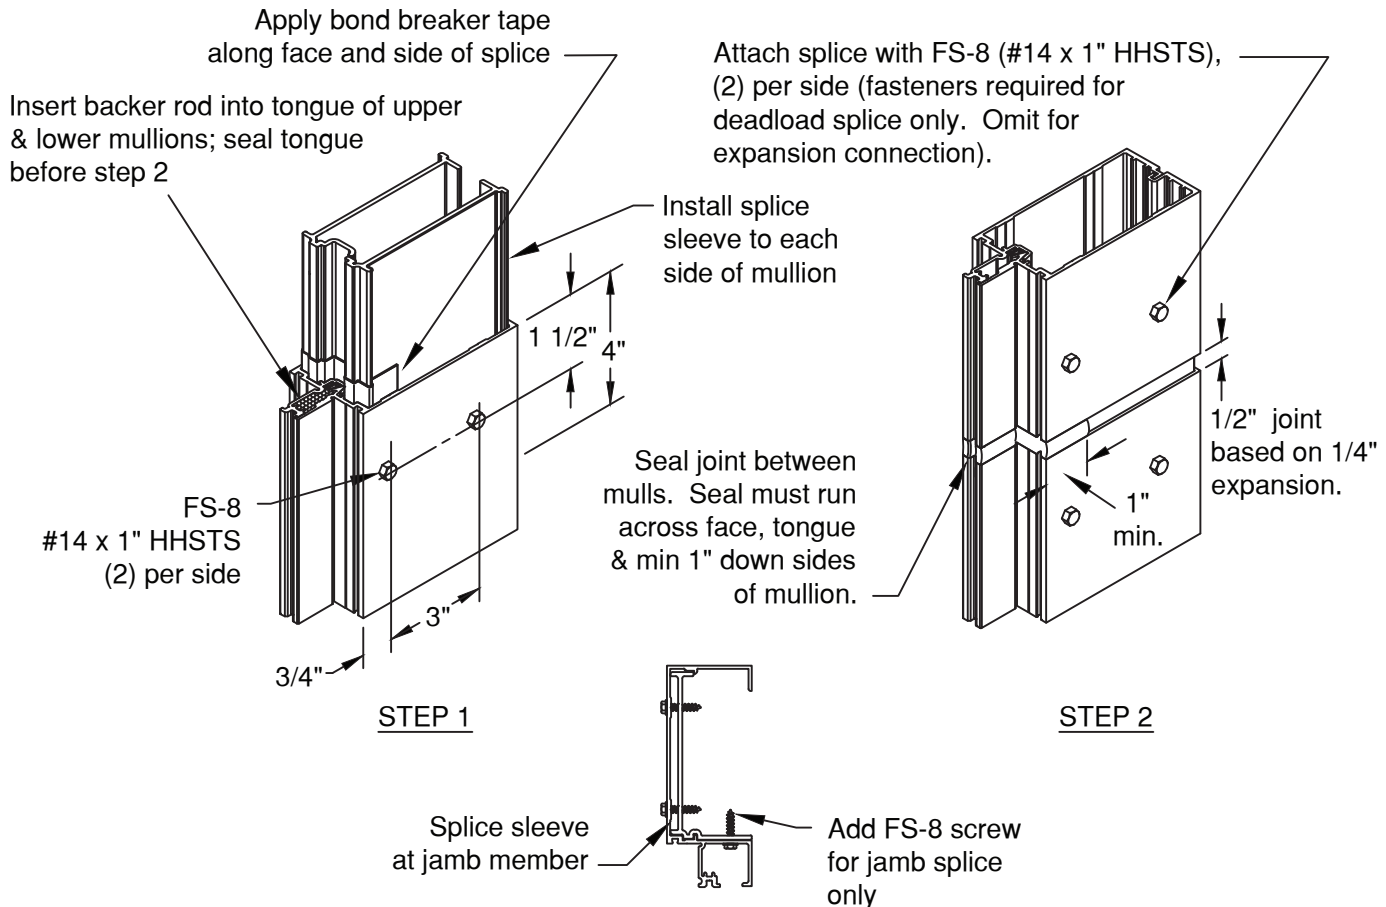

Figure 34
- B.1 Apply bond breaker tape to the face of splice sleeves, returning back on the sides 1" minimum. Insert backer rod into the hollow at the top of the lower vertical mullion, sealing this void. Seal between top and bottom mullions from the front of the tongue to 1" behind the glass pocket. Follow the contour of the glazing reglets with the sealant to ensure a good seal when gaskets are installed. **SEE FIGURE 34.**